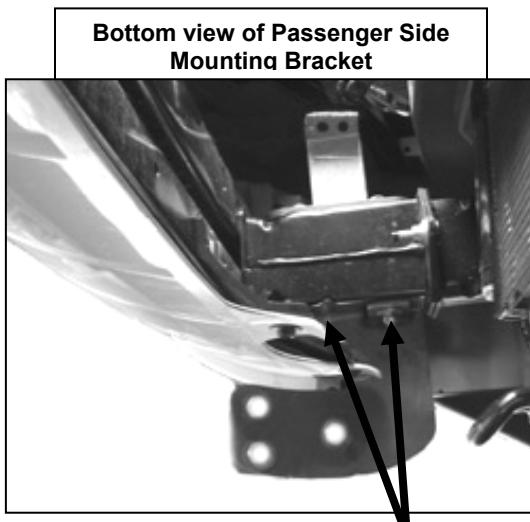

Figure 1
4. Line up holes on the Mounting Bracket with holes on the frame rail. Secure Mounting Bracket with the included (2) 8-1.25mm x 115mm Hex Bolts, (2) 8mm Nylock Nuts, and (4) 8mm Flat Washers (Figure 1 & 2). Do not tighten at this time.